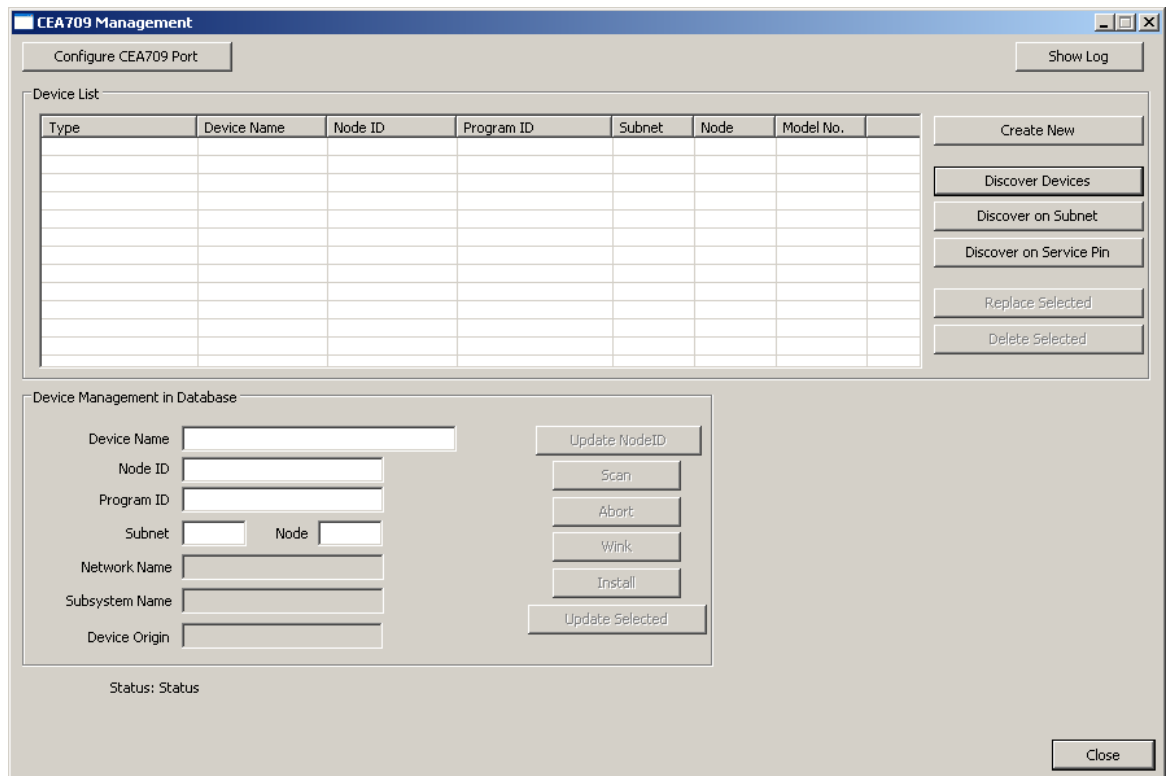

Figure 138: CEA-709 network scan dialog.
- Right-click on that folder and select **Scan CEA709/852 Network....** This opens the **CEA709 Management** dialog as shown in Figure 138.